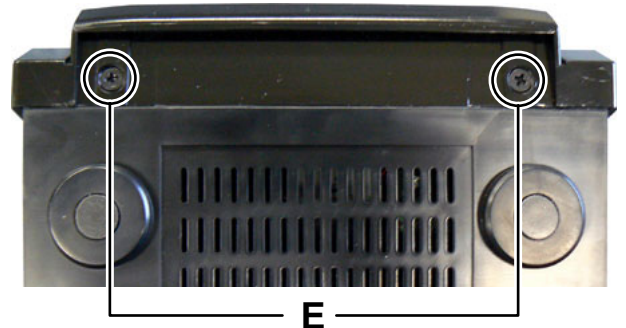

Fig.6
- (2) Remove the two screws **E** attaching the Front cabinet. (See Fig.6)